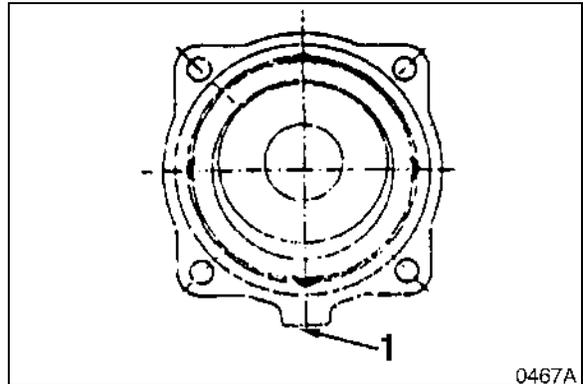

Figure 39 \
- Turn motor so that front cover side (304) is down. Put separator plates (743) and friction plates (742) back in same order in which they were removed. There are three separator plates (743) and two friction plates (742), which should be positioned as shown in drawing below, with clearance towards side of casing with brake valve (1, Figure 39).